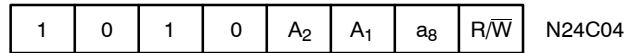

Figure 3. Slave Address Bits
The Master initiates data transfer by creating a START condition on the bus. The Master then broadcasts an 8-bit serial Slave address. For normal Read/Write operations, the first 4 bits of the Slave address are fixed at 1010 (Ah). The next 3 bits are used as programmable address bits when cascading multiple devices and/or as internal address bits. The last bit of the slave address, R/W, specifies whether a Read (1) or Write (0) operation is to be performed. The 3 address space extension bits are assigned as illustrated in Figure 3. A₂ and A₁ must match the state of the external address pins, and a₈ is internal address bit.